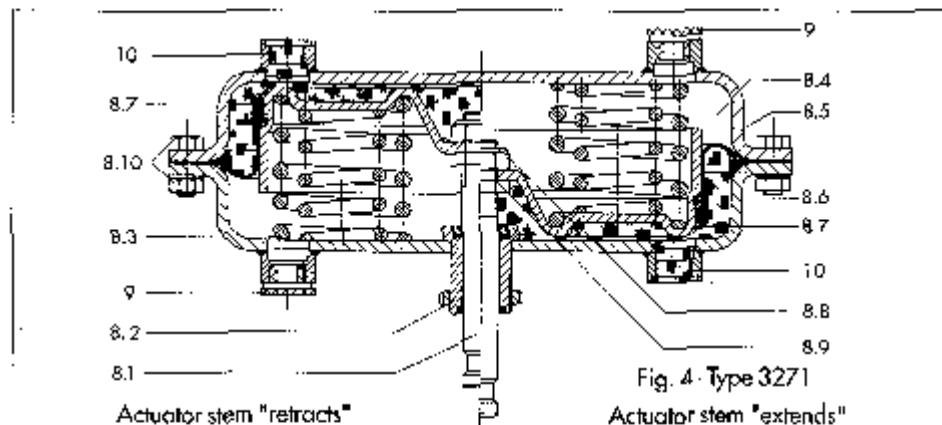

Fig. 4 Type 3271
4.1 Reversing the actuator action (Figs. 4 and 5)